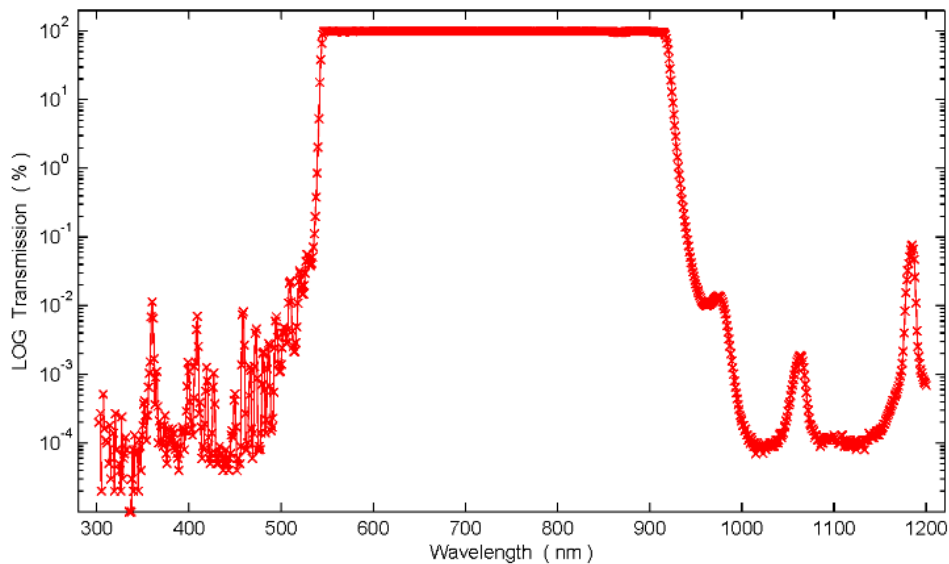

Figure 1: Bandpass filter on front face of 1st prism
1. 540-900 nm bandpass filter. See Figure 1.